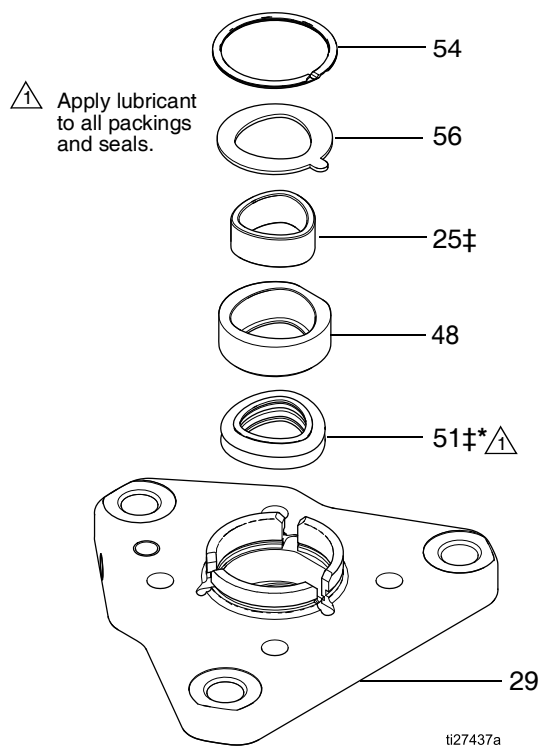

FIG. 3. Top Plate Assembly
1. Remove the retaining collar (60) by removing the screws (63).
2. Remove the four capscrews (40) and washers (46) from the top plate (29).
3. Carefully lift the top plate (29) off of the bellows chamber (45). Keep the top plate (29) level.
NOTE: See FIG. 3, page 9. The retaining ring (54), retaining washer (56), bearing housing (48), bearing (25) and backup seal (51) nest in the top plate and will slide off with the top plate (29).
- If the bellows has failed, also remove the breather valve (26) from the top plate. Clean the fluid path of any clogged paint.
See FIG. 3, page 9.
1. Install the top plate assembly (29, see FIG. 3, page 9) over the bellows assembly (53‡), by aligning the shapes of the bellows sleeve (34) and the backup seal (51‡*). To orient as desired, rotate by 90° increments, aligning the bolt holes.
- NOTE:** See FIG. 3, page 9. The retaining ring (54), retaining washer (56), bearing housing (48), bearing (25) and backup seal (51) nest in the top plate and will slide off with the top plate (29).
6. Carefully remove the retaining ring (54), retaining washer (56), bearing housing (48), bearing (25) and backup seal (51) from the top plate (29). See FIG. 3, page 9.